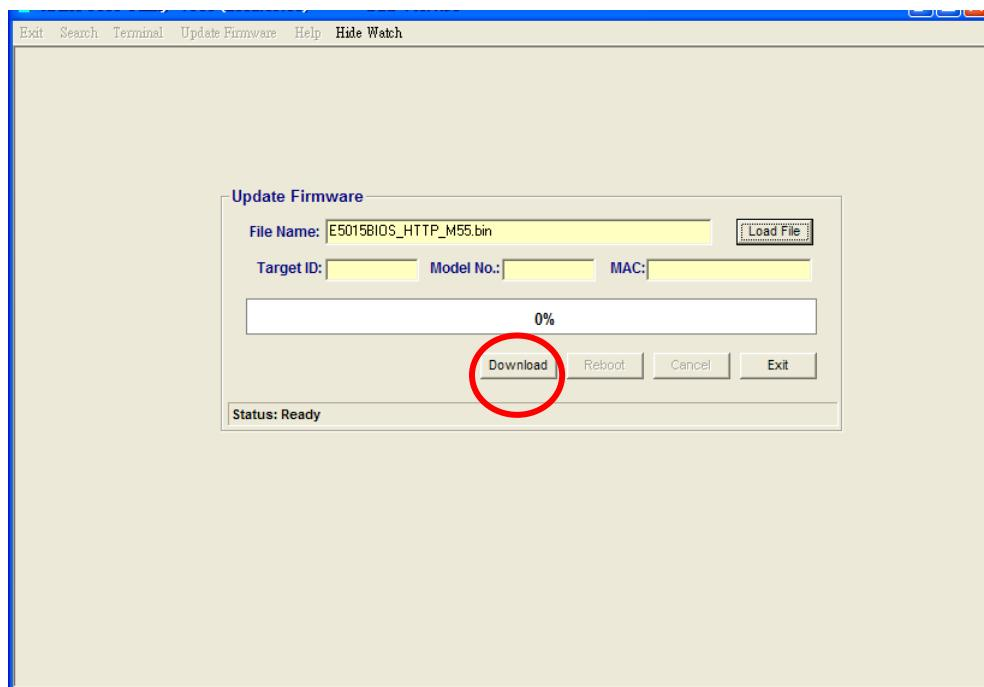

Figure -7
7. Click “Download” button to start to update firmware (see Figure -7)